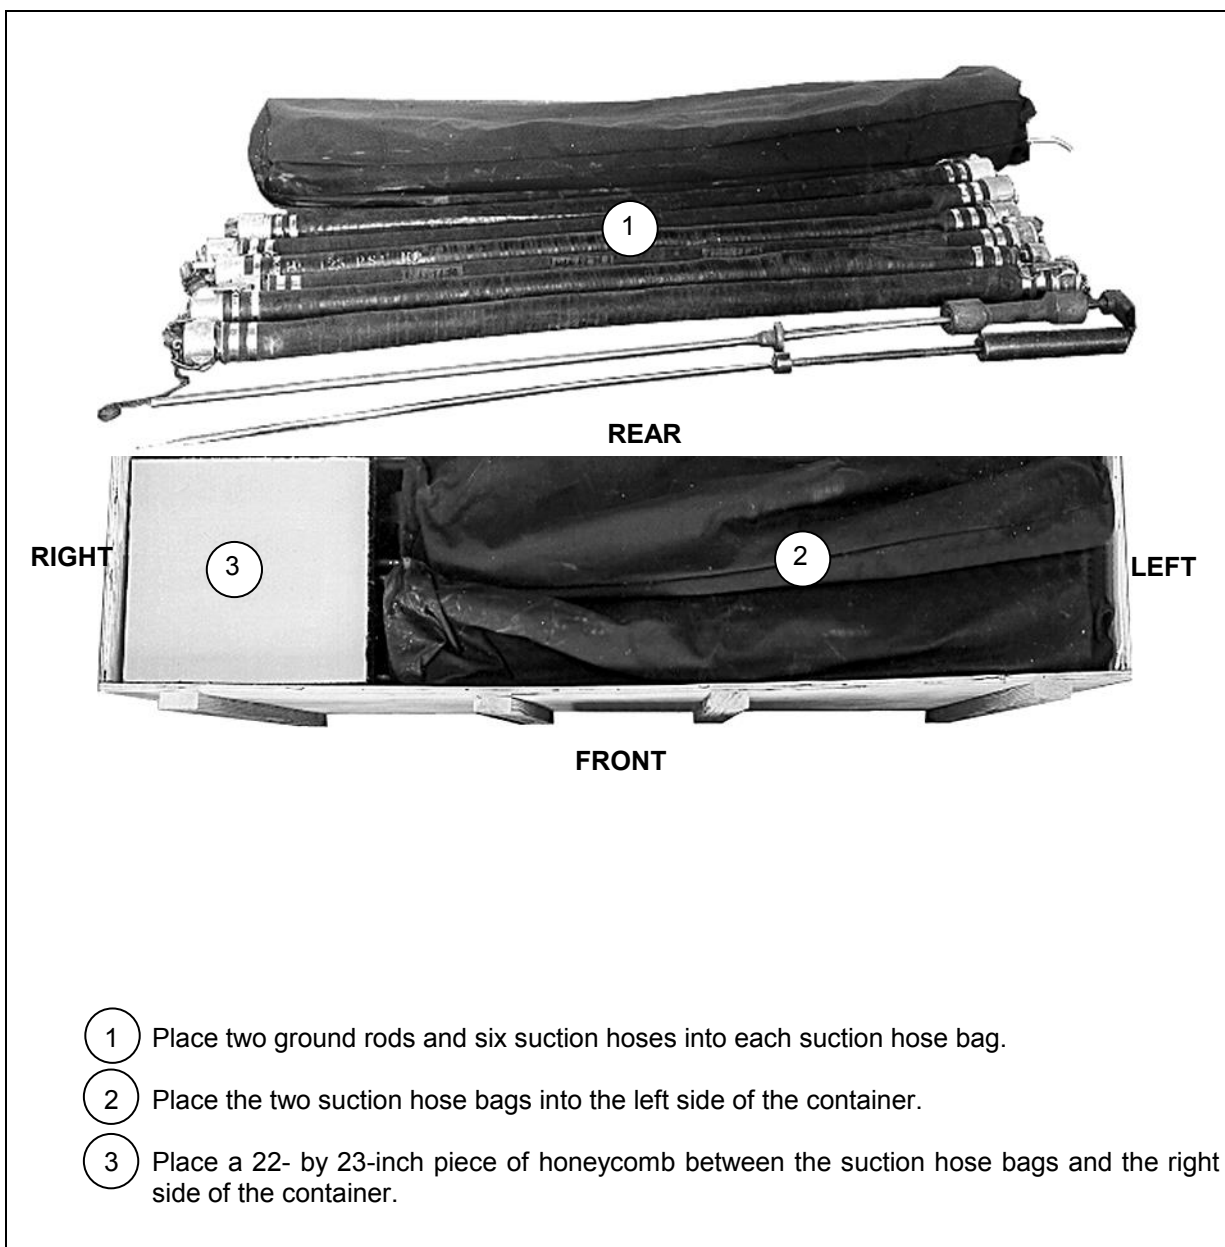

Figure 11-12. Ground Rods, Suction Hoses, and Bags Prepared and Stowed
- Preparing and Stowing Ground Rods, Suction Hoses, and Suction Hose Bags. Prepare the ground rods, suction hoses, and suction hose bags for stowing. Stow the suction hose bags in the container as shown in Figure 11-12.